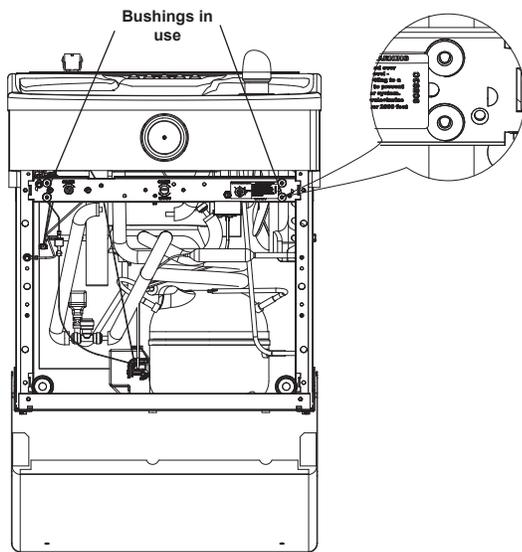

Fig. 4
3. To remove the wrapper, hold each side and gently pull wrapper up and out of pivoting bracket (see Fig. 4).
2. Removing the wrapper from the pivoting bracket when servicing the unit is recommended. For quick serviceability, the wrapper may be left in place (see Fig. 4).